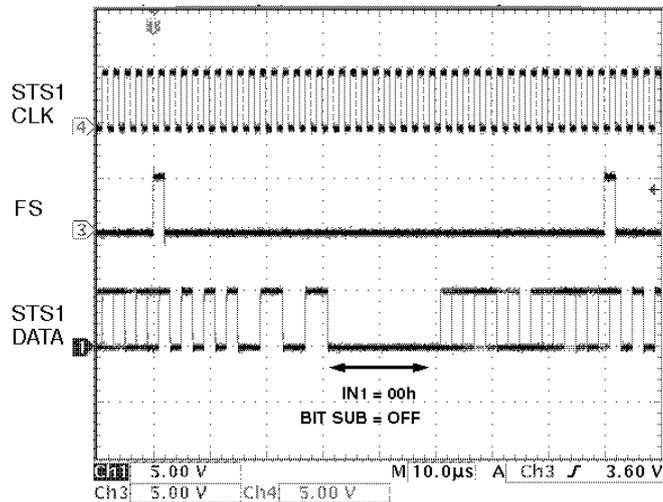
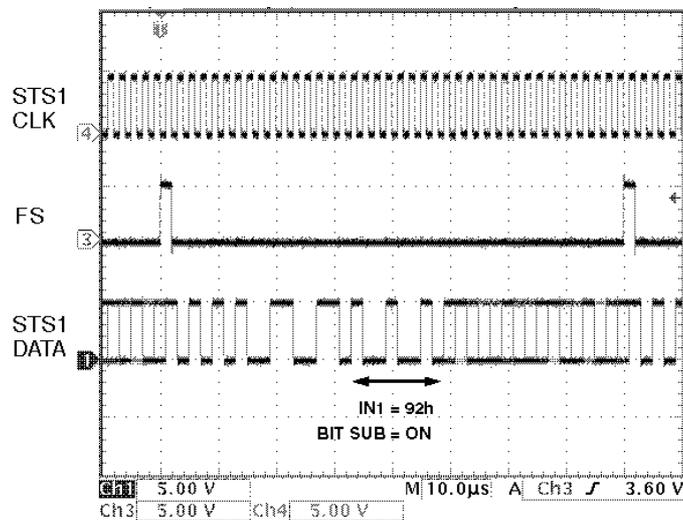

Figure 2a: TIMS STS-1 signals with BIT SUB off
Figure 2b: TIMS STS-1 signals with BIT SUB on
Refer to Figures 2a and 2b over the page to see the effect of BIT SUBSTITUTION on the payload of the **IN1** byte.
In Figure 2a the original **IN1** payload byte is '00' h and **BIT SUB** is '0'b (OFF); in Figure 2b the substituted **IN1** payload byte is '92'h and **BIT SUB** is '1'b (ON).